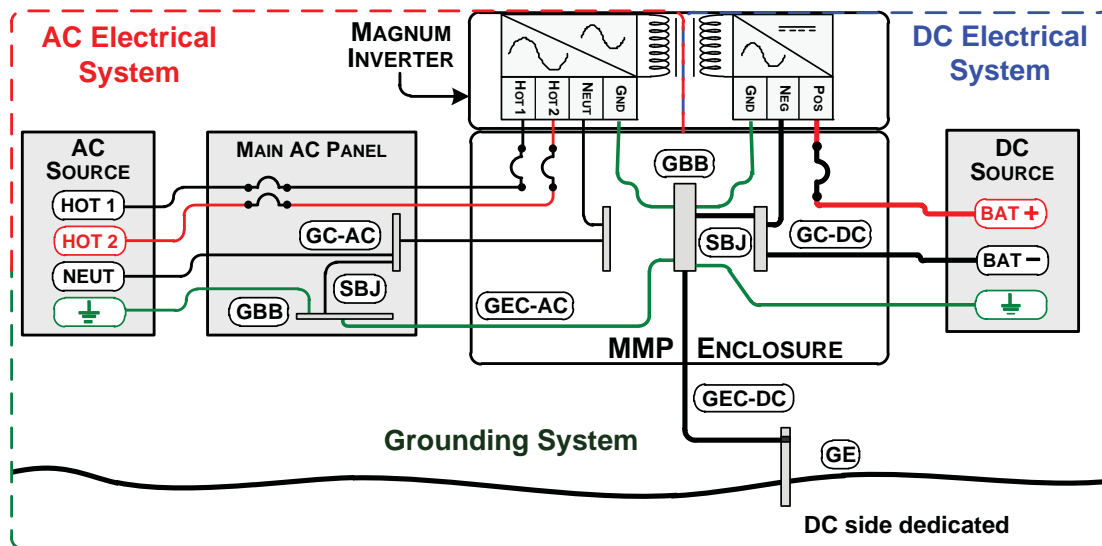

Figure 2-17, Single Connection to DC Ground Rod (Method 1)
1. Single Connection to Ground (Method 1): The AC Grounding Electrode Conductor (GEC-AC) is bonded to the DC ground point and the DC Grounding Electrode Conductor (GEC-DC) is the *only connection* to the grounding electrode, which must be a rod, pipe, or plate electrode (see Figure 2-17).